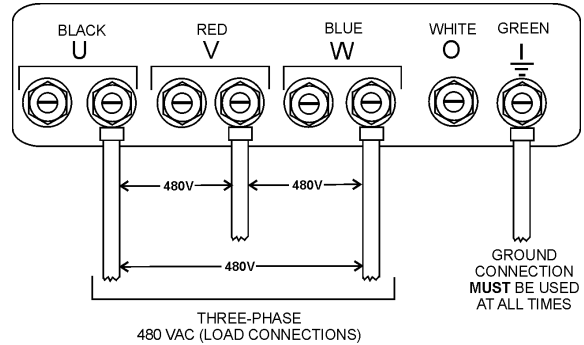

Figure 26. UVWO Terminal Lugs 1Ø-480V Connections
2. Connect the load wires to the UVWO terminals as shown in Figure 26.